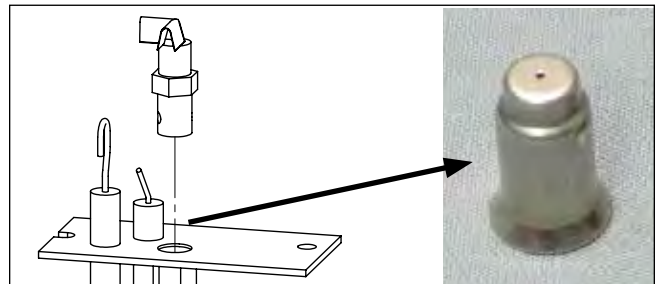

Figure 25: Pilot Orifice (not to scale)
3. Convert the existing pilot orifice with the one provided in this kit (see Figure 25) using a **7/16" wrench**. Fully unscrew and remove the pilot head and replace the orifice insert, bell end down. Re-install and tighten the pilot, if the head does not reach proper orientation in the snug position then contact your Enviro dealer.